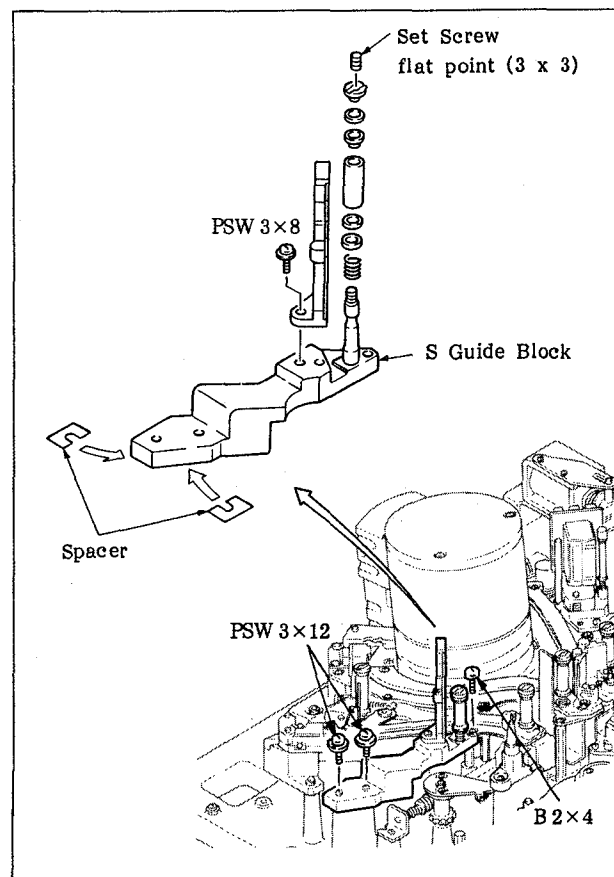

Fig. 6-46-2 Replacement of the S Guide Block
3. Replace the S guide block by referring to Figure 6-46-2. (Replacement can be made easily, so the detailed procedure will not be explained here.)
5. If the specification is not met, loosen the screws shown in Figure 6-47 by two or three turns and insert the spacer as shown in Figure 6-46-2 and again tighten the two screws firmly, and then check the inclination in step 4.